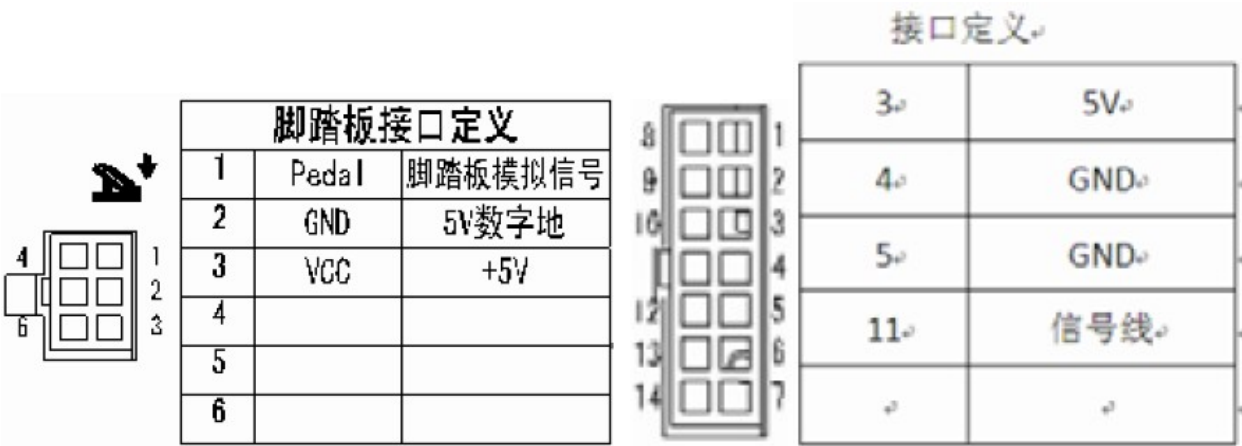

图1-2 控制器接口定义
将脚踏板及机头的各连接插头安插到控制器后面对应的插座上如图1-1 所示，各插座名称如图1-2 所示。连接好，请检查插头是否插牢。例图1-2 所示。连接好，请检查插头是否插牢。①LED灯和传感器插座；②抬压脚电磁铁插座；③脚踏板插座。
Connect the pedal and the nose or the plug placed behind the controller corresponding to the socket as shown in figure 1-1, the name of the socket as shown in figure 1-2. Connection is good, please check whether the plug is stuck. Example shown in figure 1-2. Connection is good, please check whether the plug is stuck. LED lights and sensors socket; (2) the presser foot electromagnet socket; The pedals socket.